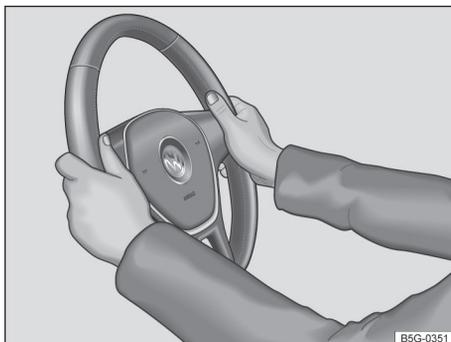

Fig. 65 Steering wheel: 9 o'clock and 3 o'clock positions.
- Adjust the steering wheel so that it can be held with hands at the 9 o'clock and 3 o'clock positions on the outside of the steering wheel rim and with the arms slightly bent at the elbow → fig. 65.
- Always hold the steering wheel on the outside of the steering wheel rim with your hands at the 9 o'clock and 3 o'clock positions → fig. 65 to help reduce the risk of serious personal injury if the driver's airbag inflates.